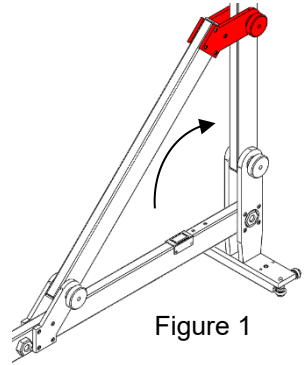

Figure 1
1. Unfold the Vertical Beam and locate the free end of the Diagonal Beam into the Locking Knob in the middle of the Vertical Beam. Ensure that the Locking Knob is located into the recess of the Locking Plate (as shown in figure 1).